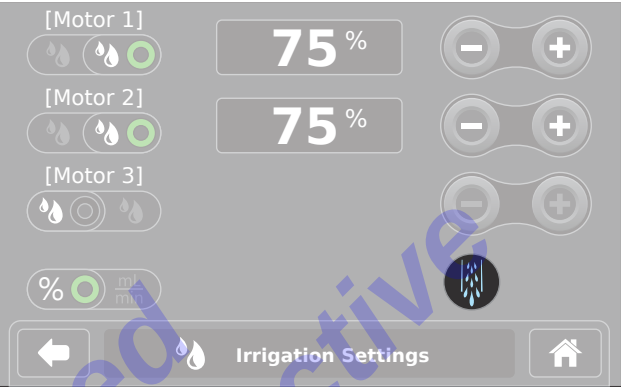

Figure 19 – Irrigation Settings (Flush)
3. Touch and hold (Flush) until lodged debris is removed (Figure 19).